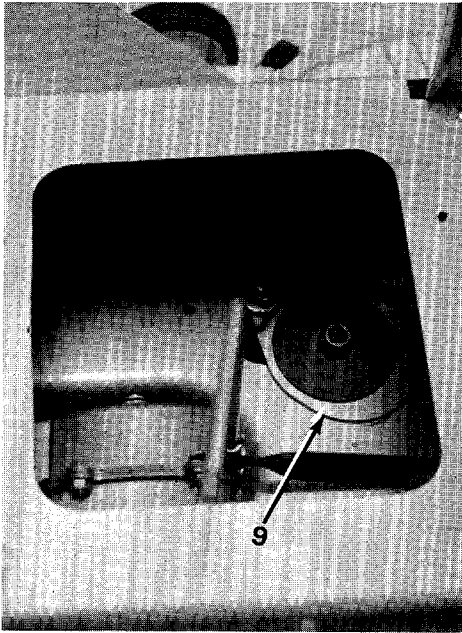

Figure 15
**Variable Speed Pivot 9**—Lubricate with SAE 30 oil or very light grease every 25 hours or anytime the clutch pedal operates stiff. Remove the gear shift knob and transmission cover to lubricate. (See figure 15.)